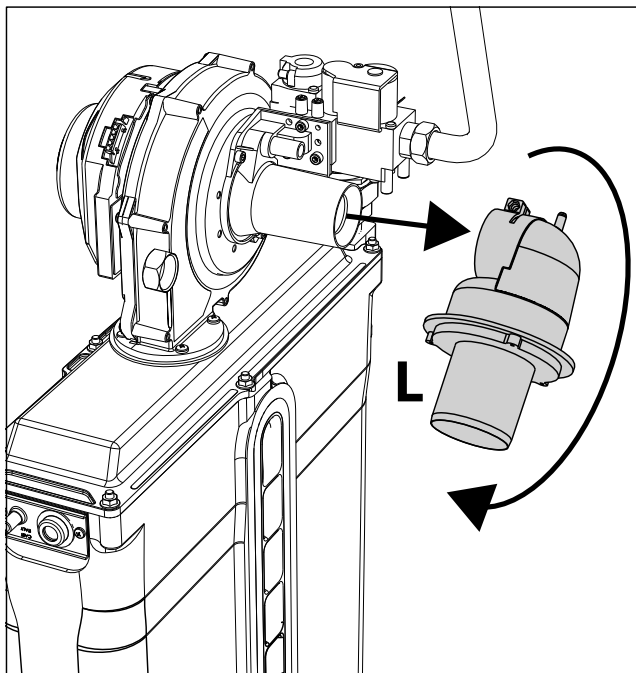

fig. 79
4. Rotate and remove the silencer "L" (see fig. 79).